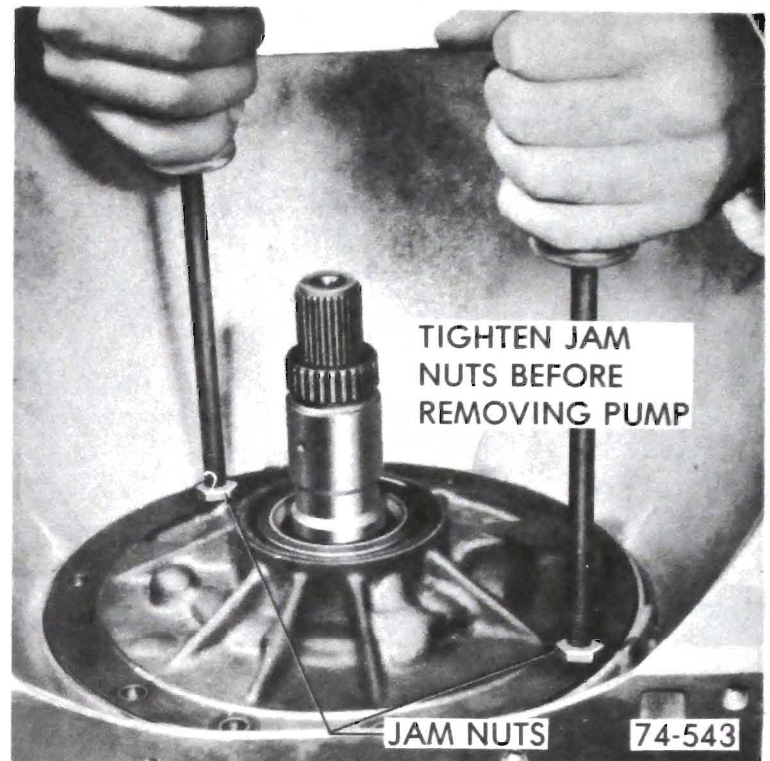

Figure 76-86
3. Install threaded slide Hammers, J-7004, into bolt holes in the pump body, tighten jam nuts and remove pump assembly from case. See Figure 76-86.